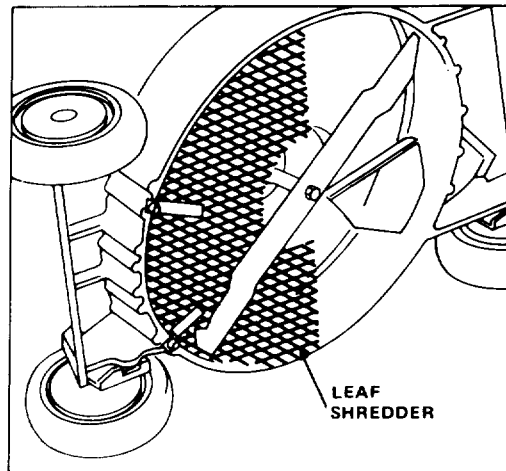

Figure 7
**SHRED LEAVES**—In fall, optional leaf shredder (Fig. 7) reduces leaves to a fraction of their original size while you bag. Minimizes emptying stops and number of trash bags used for disposal.